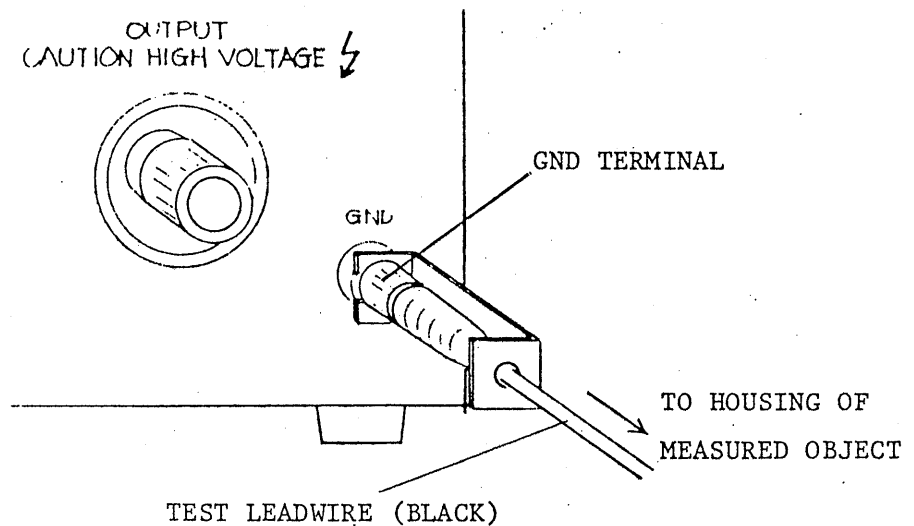

Figure 3.1.
- (1) Be sure to connect securely the GND terminal to a good grounding earth line. If grounding is imperfect, the instrument casing can be charged to the high voltage of the instrument when the output is shorted to the ground line or power line and hazards can be caused to the operator when he touches the instrument.
- (2) The connection method of the test leadwire of the GND side is shown in Figure 3.1. Be sure to check for that this leadwire is not open, each time the instrument is used. Also be sure to connect the GND terminal to the ground line of the measured object. If it is not securely connected, the measured object becomes a floated state and a dangerously high voltage may be built up in the measured object.